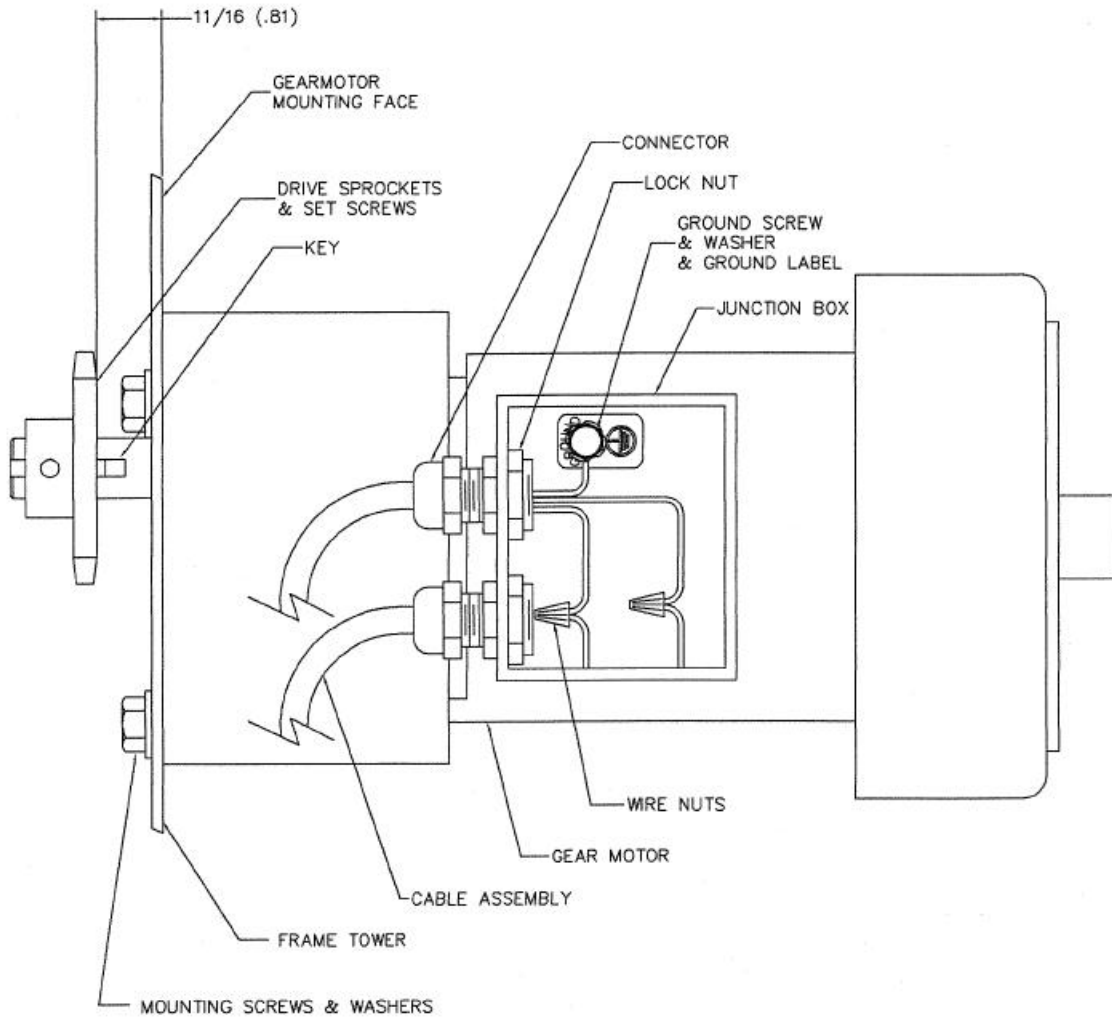

Figure 24
9.1.8 Gear Motor Removal and Replacement (Continued) (See Figure 24)
Gear Motor Installation (See Figure 24)